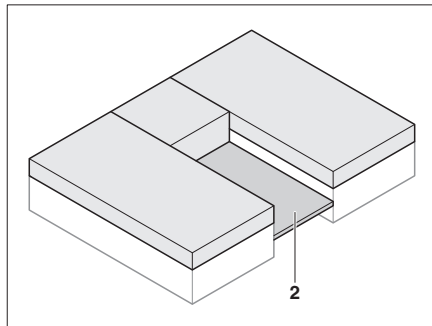

Fig. 76 Pull out slatted frame
- Pull out the slatted frame (Fig. 76,2) between the single beds.